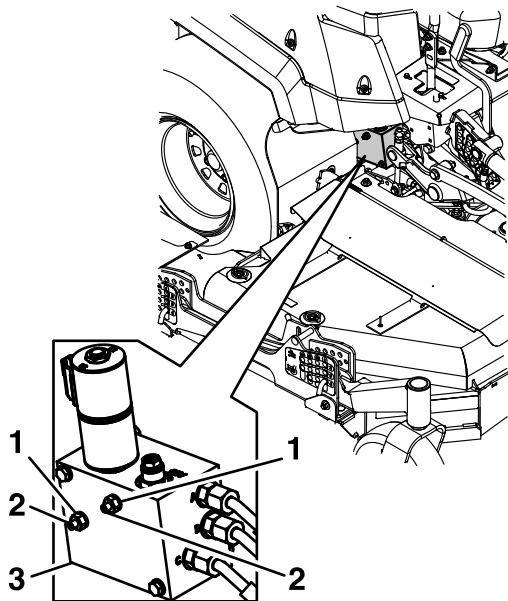

Figure 34
1. Using a 1/8-inch Allen wrench to hold the set screws, loosen the sealing nuts using a 7/16-inch wrench until the nut is flush with the end of the set screw (approximately 6 turns) as shown in Figure 34.
2. Using a 1/8-inch Allen wrench to hold the set screws, loosen the sealing nut using a 7/16-inch wrench (Figure 34).